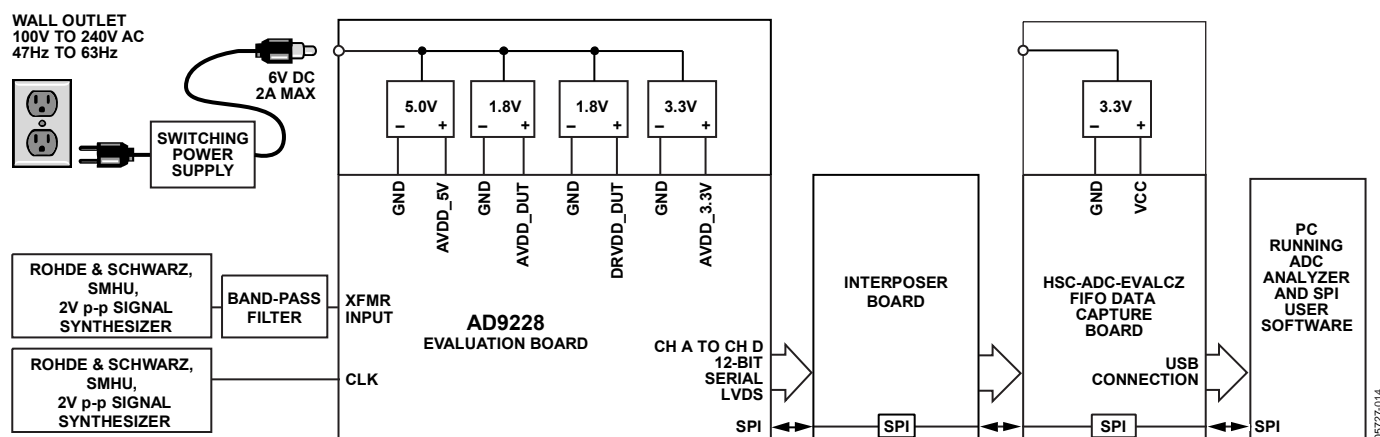
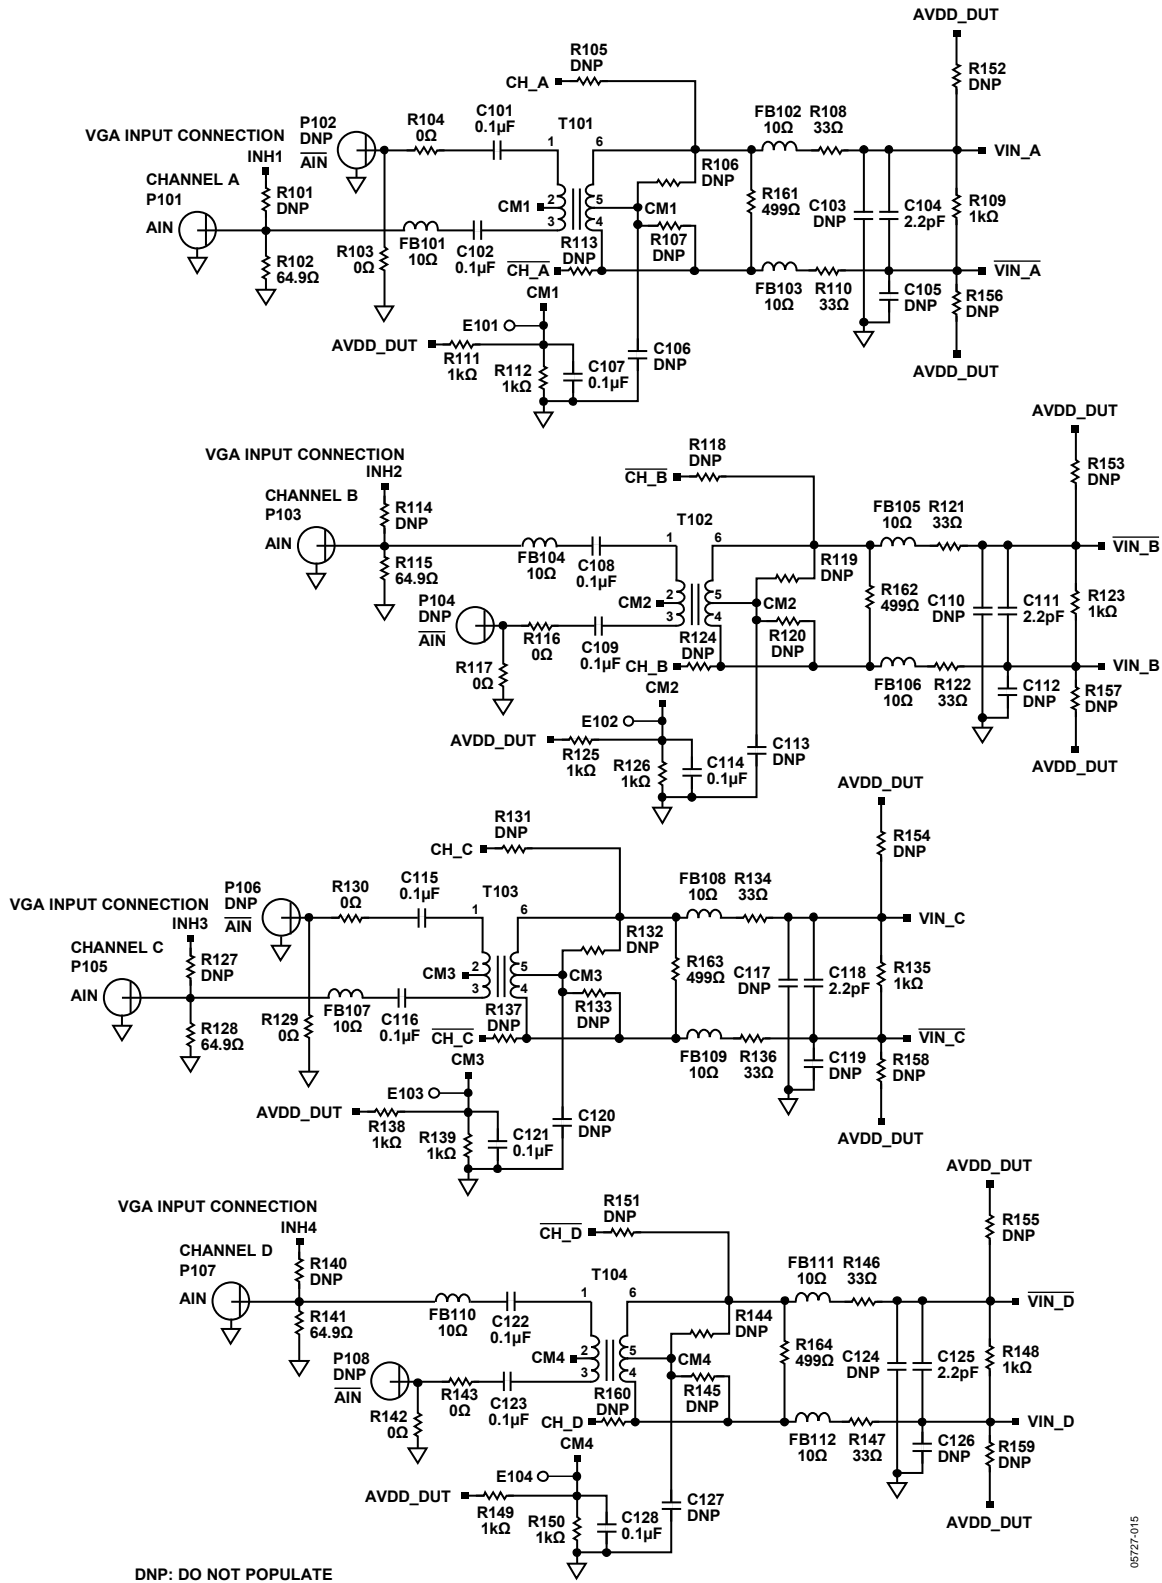
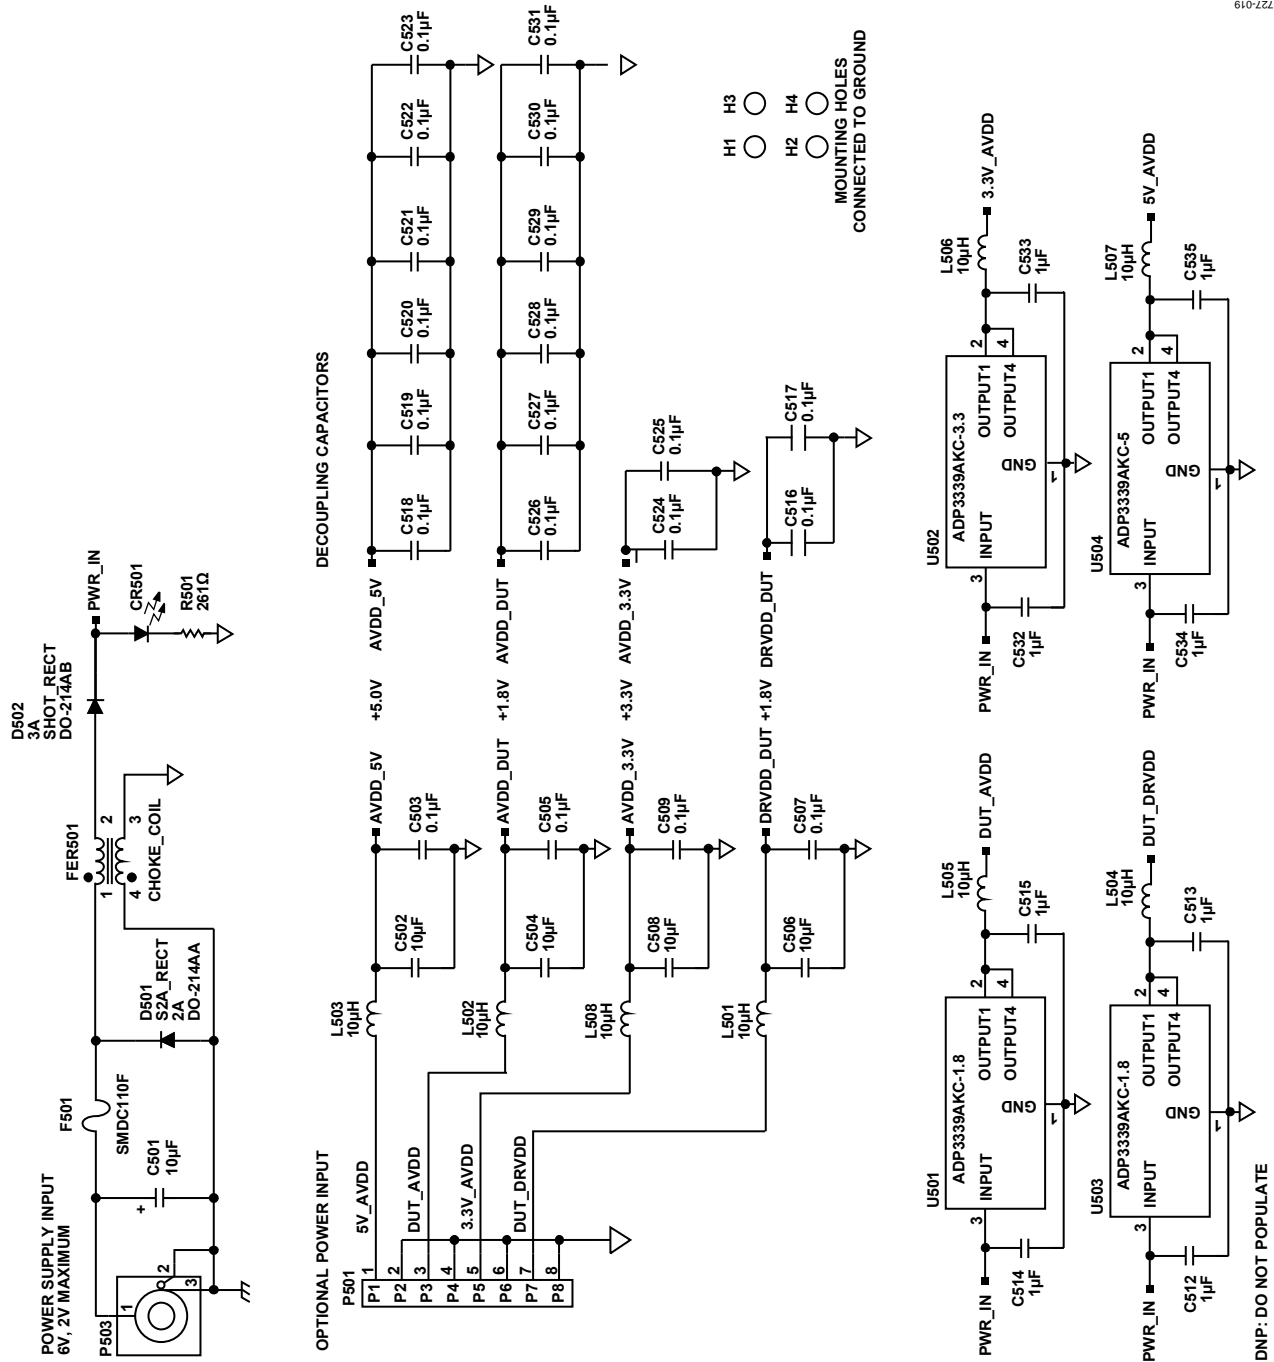
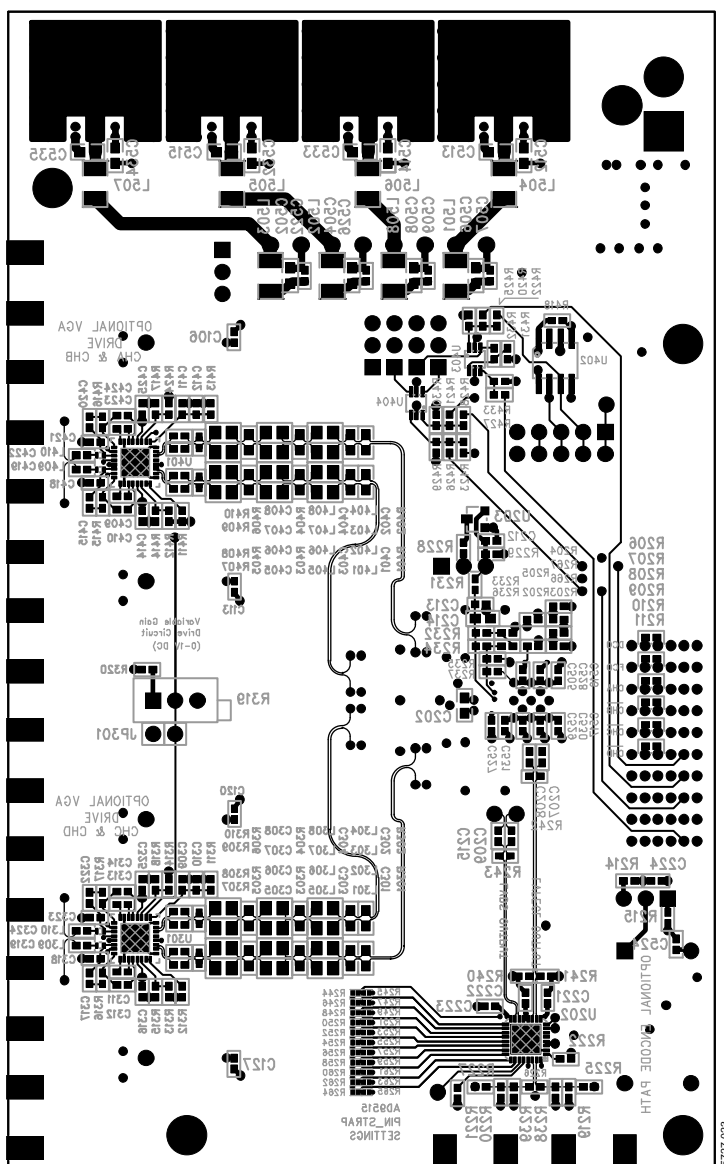

Figure 71. Evaluation Board Connection
Figure 73. Evaluation Board Schematic, DUT Analog Inputs
Figure 77. Evaluation Board Schematic, Power Supply Inputs
Figure 81. Evaluation Board Layout, Secondary Side (Mirrored Image)
The AD9228 evaluation board provides all of the support circuitry required to operate the ADC in its various modes and configurations. The converter can be driven differentially using a transformer (default) or an AD8332 driver. The ADC can also be driven in a single-ended fashion. Separate power pins are provided to isolate the DUT from the drive circuitry of the AD8332. Each input configuration can be selected by changing the connection of various jumpers (see Figure 73 to Figure 77). Figure 71 shows the typical bench characterization setup used to evaluate the ac performance of the AD9228. It is critical that the signal sources used for the analog input and clock have very low phase noise ( $<1$  ps rms jitter) to realize the optimum performance of the converter. Proper filtering of the analog input signal to remove harmonics and lower the integrated or broadband noise at the input is also necessary to achieve the specified noise performance.
See Figure 73 to Figure 81 for the complete schematics and layout diagrams demonstrating the routing and grounding techniques that should be applied at the system level.
- **D + x, D - x:** If an alternative data capture method to the setup shown in Figure 73 is used, optional receiver terminations, R206 to R211, can be installed next to the high speed back-plane connector.